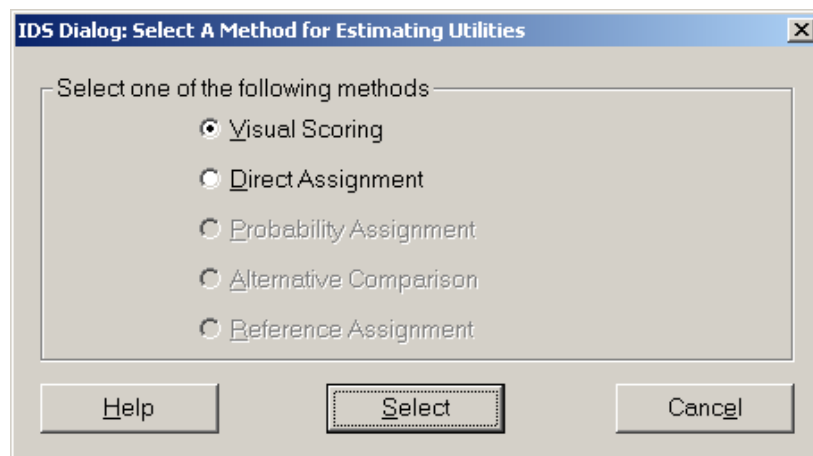
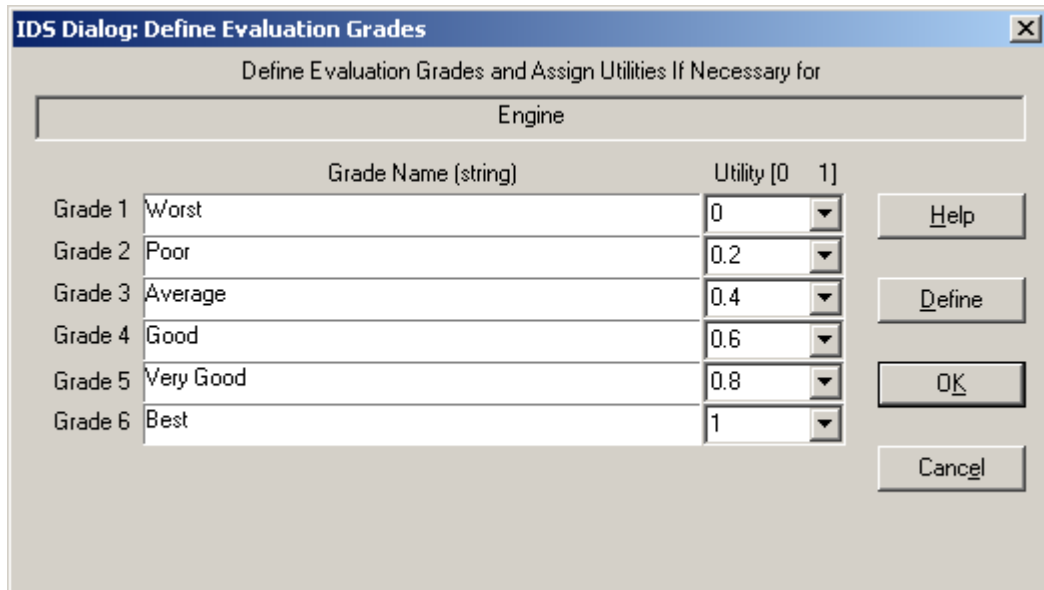

Figure 2.18 Covert Child Grade to Father Grade by Rules
Figure 2.19 Define Evaluation Grades and Assign Utilities
- At this point, a dialog window shown in **Figure 2.18** will pop up for you to select a method to assign utility to each grade. You may select *Direct Assignment* or *Visual Scoring*, which will activate a window similar to **Figure 2.19** if *Direct Assignment* or **Figure 2.14** if *Visual Scoring* is selected. It basically gives you another chance to edit the utilities you have assigned to each assessment grade of *Engine*. You will not see the grade by grade conversion process as shown in the rule based approach. It is because by using the utility based approach, the father’s grades and child’s grades are all represented by utilities, which is in a common space of [0, 1]. It implies that the conversion is already implemented through the utility assignment and an conversion matrix is generated internally by IDS.